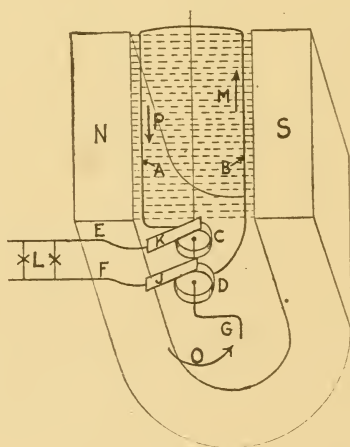
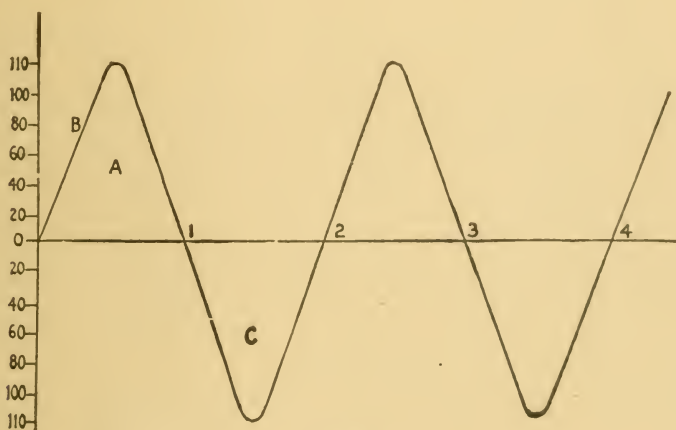

FIGURE 1
FIGURE 4
Figure 1 is the diagrammatic representation of a dynamo in its simplest possible form. (23) We see a permanent magnet between the poles (N and S) of which flow lines of magnetic force represented by dotted lines. This flow constitutes what is known as magnetic field. Within this "field" is copper wire AB, bent into the form shown, which represents the armature of a generator. One end of this wire is attached to flat-faced metal ring C; the opposite end to a similar ring, D.
alternately in this case) are attached. Between these wires lamps L are connected. (24) Examining this diagram it is clear that any current generated may flow through coil AB into one of the brushes KJ, on into one of the wires and through lamps L into the other wire, producing light in the lamps of course. We then have a complete, or "closed" circuit in Fig. 1.
(26) Let us now advance a step: in Fig. 1 it is assumed that crank G rotates in direction O. Under that condition current generated will flow toward brush K and wire E. As the coil now lies, it is in the very strongest part of the magnetic field. When it is rotated, one side rises and the other lowers gradually, both not only passing out of the strongest part of the field, but moving more and more in the direction of the lines of magnetic force, hence cutting across less and less and finally none of them. Analyzing this action we see that gradually (the action becomes really very fast) the voltage and consequently the current generated grow weaker, until finally both cease entirely. (27) However since the coil continues to move, side B immediately starts downward and side A upward, so that both again start cutting lines of magnetic force, but in an opposite direction to that of the preceding half-revolution.
of current flow throughout the entire circuit has been reversed. This reversal will continue with every half-revolution of coil AB. (28) This description assumes the flow to be from positive to negative (+ to —) in accordance with what was until quite recently considered as the action of current. Some scientists now tell us the action is from negative to positive; in that case the story told in Figure 1 calls only for a reversal of direction of the arrows.
(29) In the infinitesimal fraction of a second during which coil AB stands in upright position neither side is cutting any lines of force at all; hence the whole circuit is electrically "dead." The lamps continue to maintain partial illumination through the "dead" period because their incandescent parts cannot wholly cool off in so short a time.
(58) As has been said, a. c. flows first in one direction, then flows in the opposite direction for an exactly equal space of time. These changes in direction of flow are called alternations. (59) Two alternations (the current starting from horizontal line 0, Fig. 4, following line BC to point 2) form one complete "cycle." (60) The number of cycles per second are termed the frequency of the current.
A. c. action usually is expressed diagrammatically as shown in Fig. 4. (65) The vertical line represents voltage (E.M.F.). The horizontal time line represents four alternations. Triangles A and C each represent one alternation; the two together, one cycle. If the current be 60 cycle (60 cycles per second) then the distance from 0 at the left end of horizontal time line to 1 would represent one-half of one-sixtieth, or  $1/120$ th of a second of time.
(66) Line B represents voltage or current flow. Current and voltage start from line 0 at zero, raising to 20, 40, 60, 80, 100 and 110 volts in  $1/240$ th of a second. It is then at its maximum and instantly begins to sink back to zero at 1.
We now see that line B represents two things: time ( $1/120$ th of a second between 0 and 1) and voltage through successive stages up to 110 volts, which is maximum. The same action now takes place, as represented by triangle C, except that polarity is reversed, and so on indefinitely. (67) Where the triangular lines cross the horizontal line is the point where the wires of armature coil AB, Fig. 1, stand above each other and are moving in the same direction as the lines of magnetic force, cutting none of them and generating no voltage.
We have been describing what is known as single-phase a. c., in which, as has been explained, the voltage and amperage both sink to zero at the end of each alternation, resulting in a strong pulsating effect, both in light and power production. (68) This may be avoided in a. c. by the joining of two single phase currents of the same frequency (time per alternation or cycle) and voltage, (69) the two being so coupled together that the low period (0 Fig. 4) of one comes at the high period of the other.
Suppose we have two generator armatures producing exactly equal voltage and frequency (see Fig. 1) so